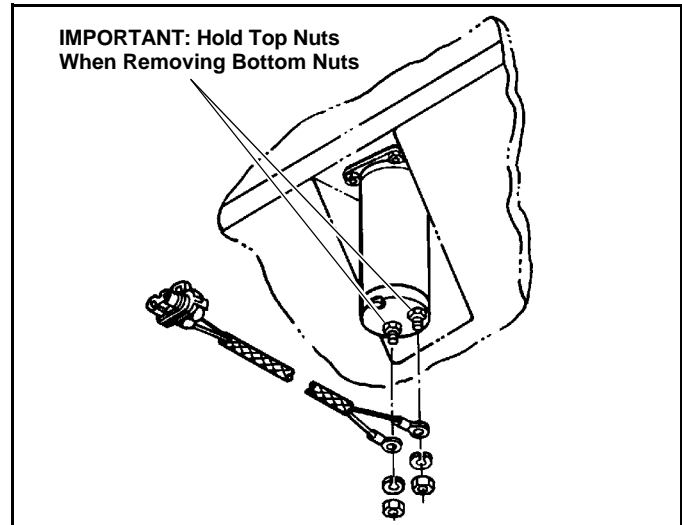

Figure 1-5
2. Remove the two electrical wires from the terminal posts on the motor and reverse them. (Remove both wires from terminals. Place wire from right terminal on left terminal, and connect wire from left terminal to right terminal.) (See Figure 1-5)